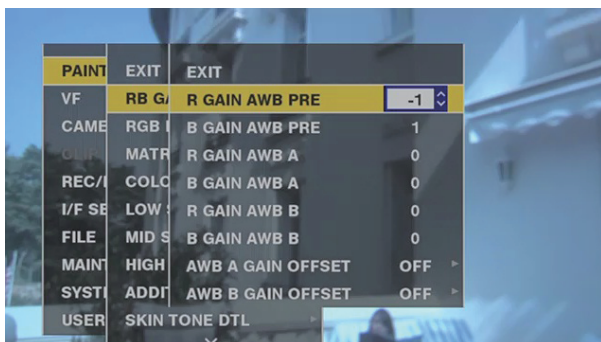

Fig. 3
- In some menus, a screen for value setting is displayed. (Fig. 3)